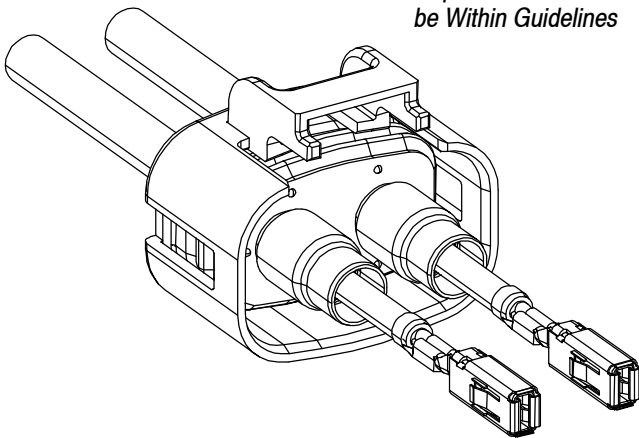

Figure 11
4.1. Cable Assembly Inspection Summary (See Figure 11)